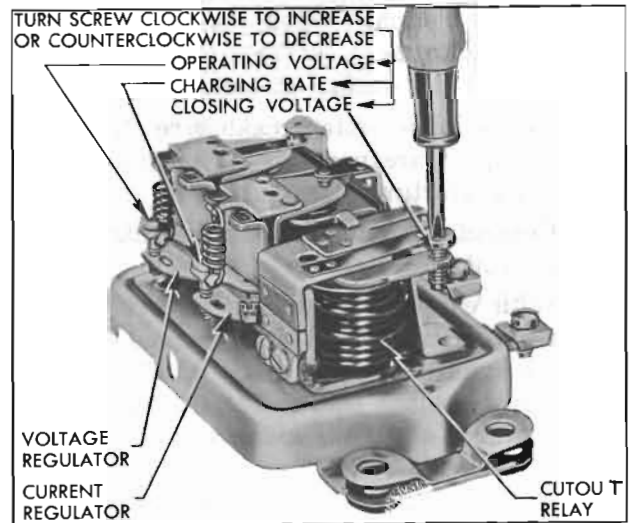

Figure 10-18—Generator Regulator Spring Tension Adjustments
left hand thread, therefore turning screw clockwise increases spring tension and closing voltage. Turning screw counterclockwise decreases closing voltage. See figure 10-18. *After adjustment, install cover and recheck closing voltage.*
18. If contact points are in satisfactory condition but either the voltage or current regulator did not operate within specified limits, adjust armature spring tension as required. Turn adjusting screw clockwise to increase operating voltage or charging rate. See figure 10-18. *The final setting must always be made by turning screw clockwise to increase voltage*